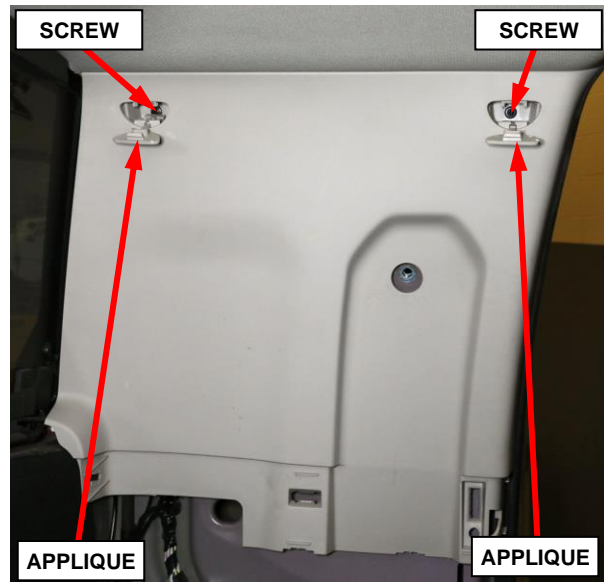

Figure 75 – C-Pillar Upper Trim Panel Fasteners
14. Using a trim stick or equivalent, release the B-pillar airbag applique then remove the screw that secures the upper trim panel (Figure 75).